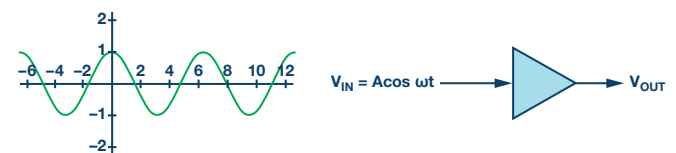

Figure 2. Single-ended amplifier.
Differential signals can reject even-order harmonics. This is shown in the following example with a continuous wave (CW) passing through one gain stage. When using one single-ended amplifier, the output can be expressed, as shown in Figure 2, Equation 1, and Equation 2.